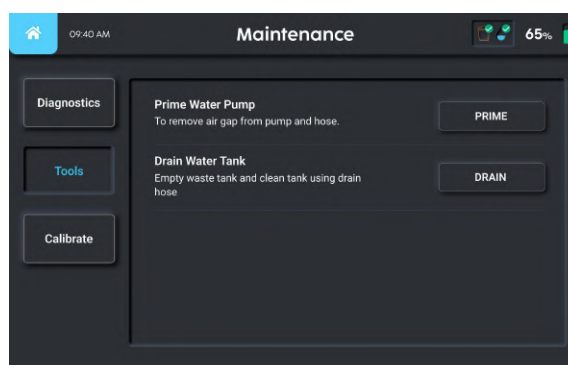

FIGURE 10-6
2. Click "Tools" (**Fig. 10-6**).